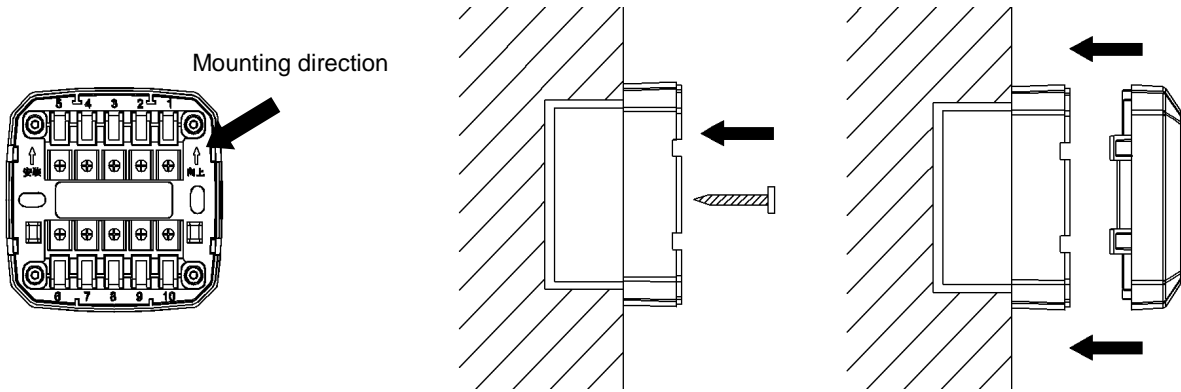

Fig.2
- 4.Isolate interface Mounting showing in Fig.2